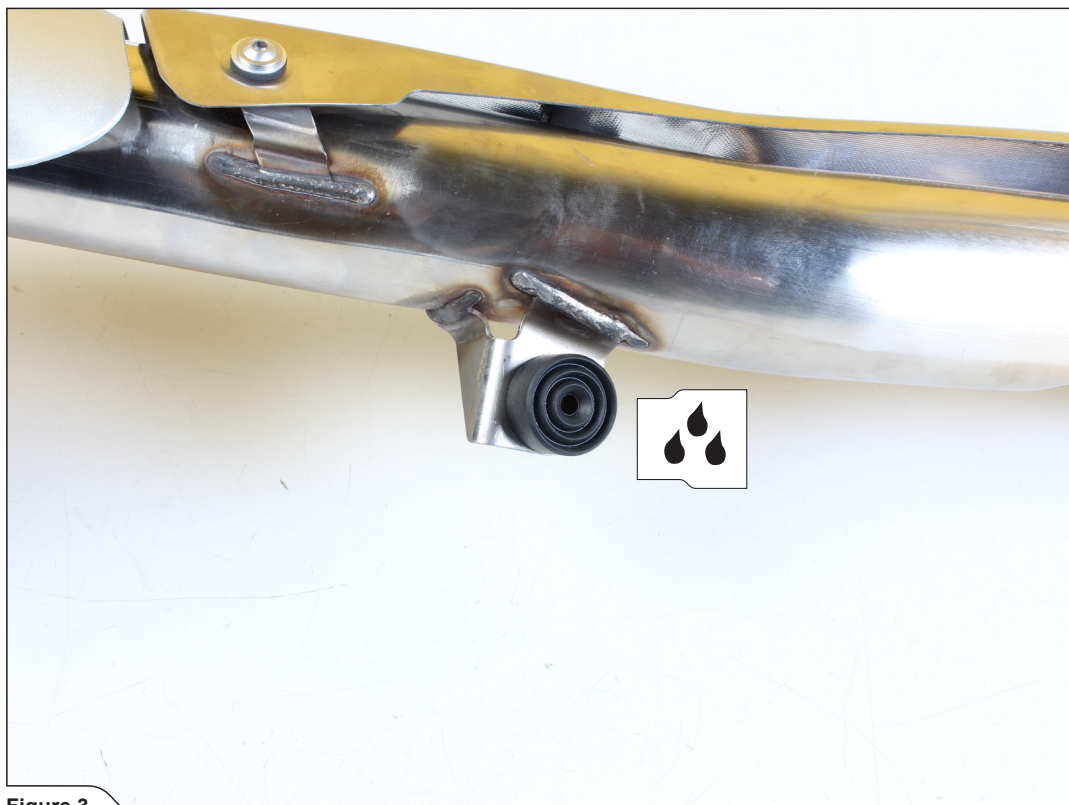

Figure 3
4. Remove the stock rubber central stand damper (**Figure 3**).